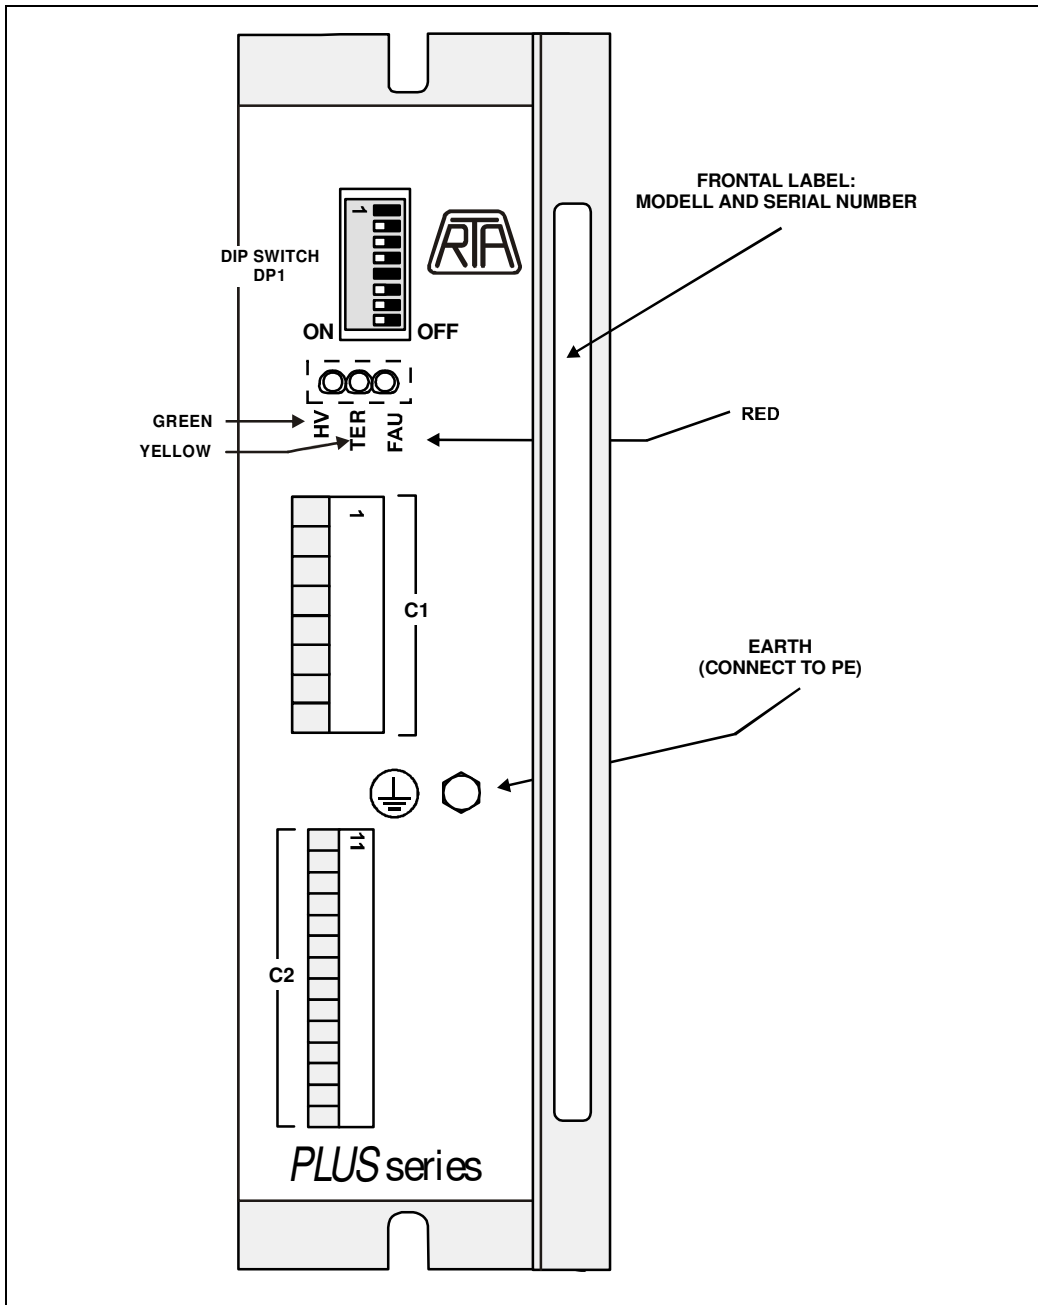

Fig. 4 – Dip-switch DP1, alert led and connectors.
- 6.2- Fig. 4 shows the position of DIP-SWITCH DP1, alert LED, connectors and labels in PLUS B series drives.